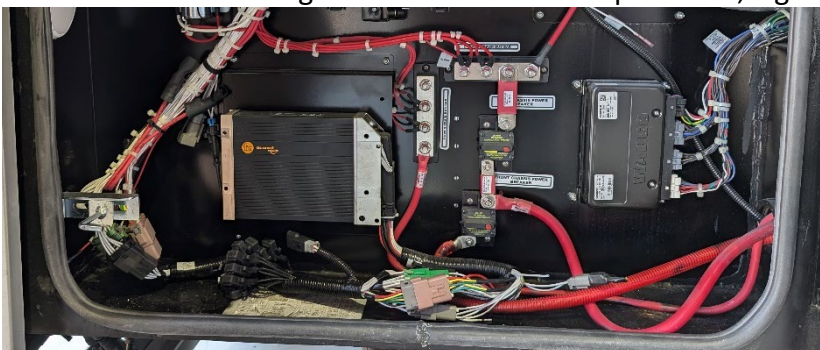

Figure 6
4. Tuck the chassis wiring harness into the compartment, figure 6, and turn chassis power on.